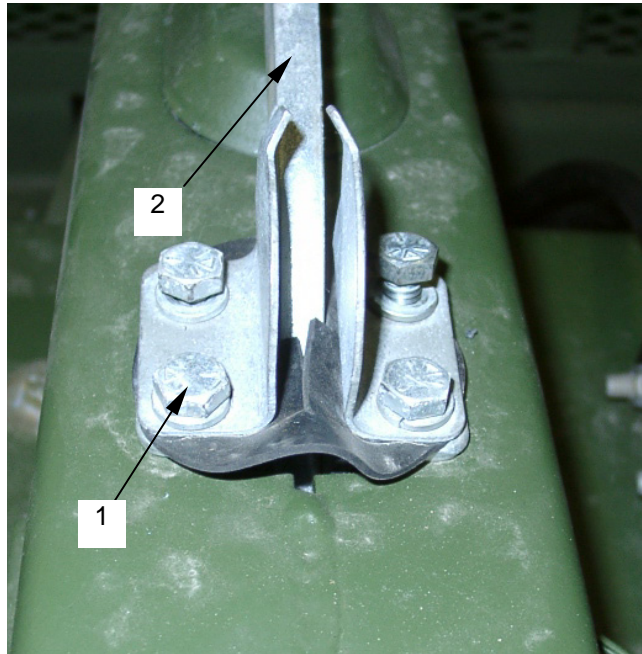

Figure 7. Breakaway Lever Mounting Bolts
- f. Loosen the four breakaway mounting bolts (**figure 7, item 1**) to keep the break-away locks from restricting the lever motion.
- g. Rotate the breakaway lever (**figure 7, item 2**) forward slowly using small strokes until bubbling stops inside the master cylinder.